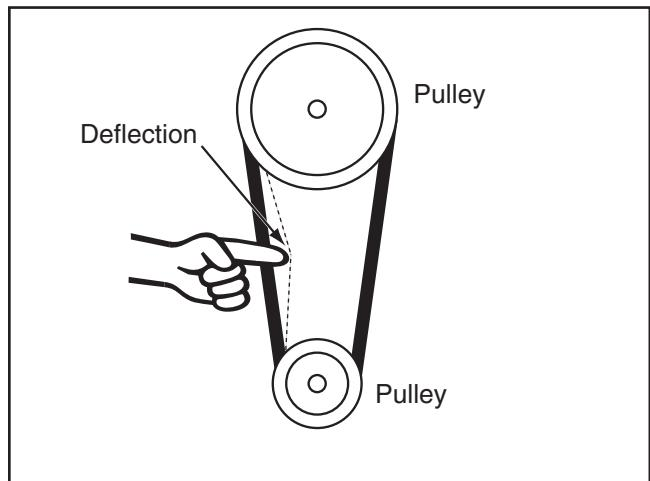

Figure 44. Belt deflection.
2. Push the center of each V-belt as illustrated in **Figure 44**, using moderate force. When tensioned correctly, the deflection should be about $\frac{1}{4}$ ".